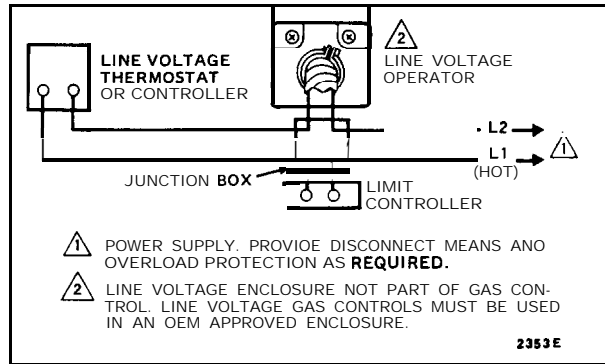

FIG. 10—TYPICAL WIRING HOOKUP FOR 120V SYSTEM.
1. Make sure power supply rating on each control matches available supply. Install line voltage thermostat (or controller) and other controls as required. Refer to Fig. 10 for typical wiring diagram.